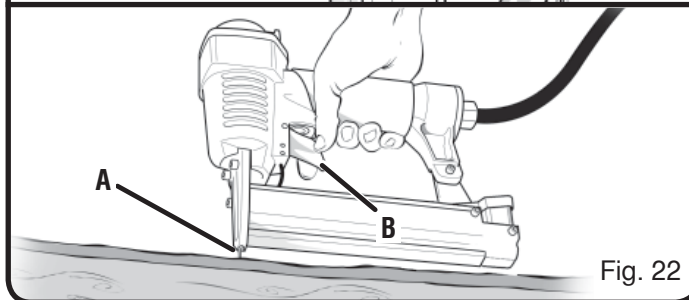

Fig. 22
- 10) The nailer/stapler is now ready for use. Before proceeding with the actual work, it is advisable to practice on a test piece in order to check penetration of the nails/staples: use a piece of reject wood of a thickness exceeding the length of the nails/staples. Rest point (A) of the nailer/stapler against the surface of the wood and press trigger (B). If the nail/staple does not penetrate to the depth required, set the air pressure to a higher value **WITHOUT EXCEEDING THE MAXIMUM PRESSURE INDICATED IN THIS MANUAL** (Fig. 22).